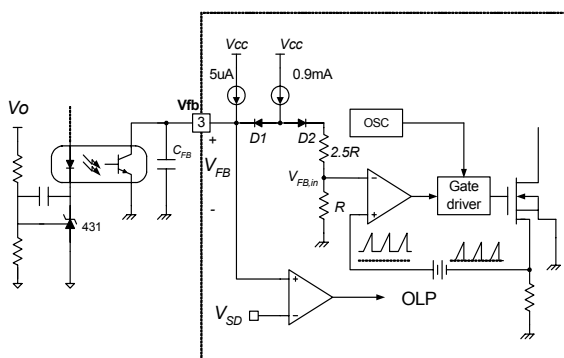

Figure 5. Pulse Width Modulation (PWM) Circuit
**2. Feedback Control** : The FSDx0365RN employs current mode control, as shown in Figure 5. An opto-coupler (such as the H11A817A) and shunt regulator (such as the KA431) are typically used to implement the feedback network. Comparing the feedback voltage with the voltage across the Rsense resistor plus an offset voltage makes it possible to control the switching duty cycle. When the KA431 reference pin voltage exceeds the internal reference voltage of 2.5V, the optocoupler LED current increases, the feedback voltage Vfb is pulled down and it reduces the duty cycle. This event typically happens when the input voltage is increased or the output load is decreased.
**4.4 Over Voltage Protection (OVP) :** In the event of a malfunction in the secondary side feedback circuit, or an open feedback loop caused by a soldering defect, the current through the opto-coupler transistor becomes almost zero (refer to Figure 5). Then, VFB climbs up in a similar manner to the over load situation, forcing the preset maximum current to be supplied to the SMPS until the over load protection is activated. Because excess energy is provided to the output, the output voltage may exceed the rated voltage before the over load protection is activated, resulting in the breakdown of the devices in the secondary side. In order to prevent this situation, an over voltage protection (OVP) circuit is employed. In general, Vcc is proportional to the output voltage and the FPS uses Vcc instead of directly monitoring the output voltage. If VCC exceeds 19V, OVP circuit is activated resulting in termination of the switching operation. In order to avoid undesired activation of OVP during normal operation, Vcc should be properly designed to be below 19V.